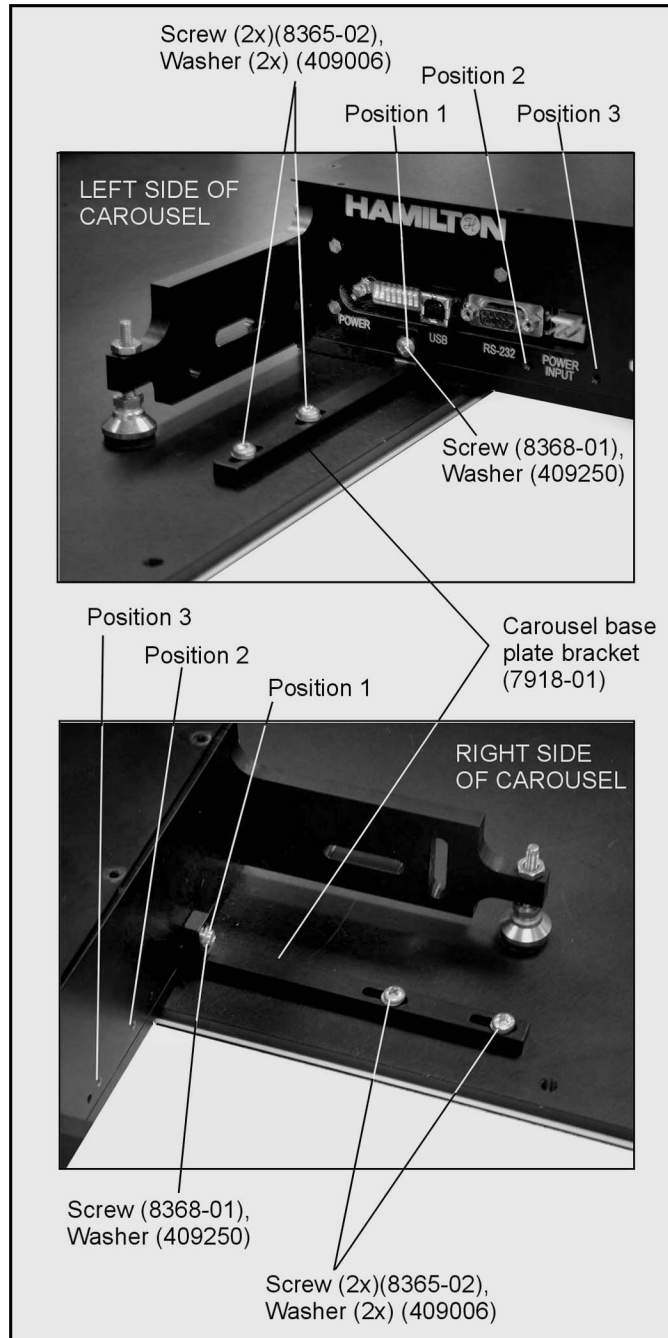

Figure 5: Right and left sides of carousel housing assembly
2. Determine how close the housing assembly must be to the ML SWAP. There are three positions possible represented by three threaded holes in each side of the housing assembly (see figure 5).
3. Secure the carousel base plate brackets (7918-01) to the left and right sides of the housing assembly, in the desired position (1, 2, or 3), with the washer and screw shown in figure 5.
4. Align the holes of the brackets to the holes in the ML SWAP base plate. Using the screws and washers supplied, secure the brackets to the base plates (see figure 5).